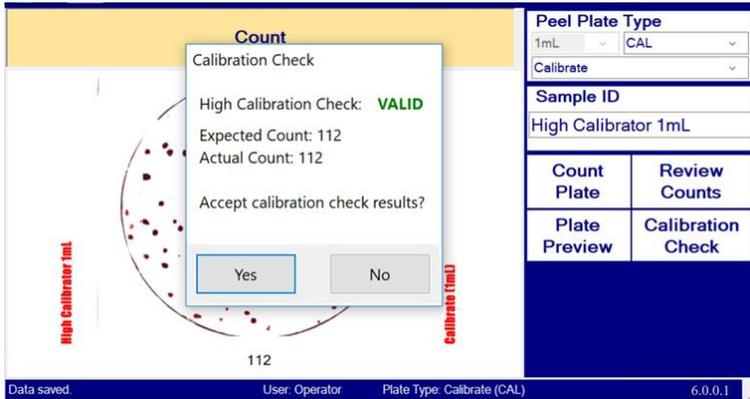

Figure 10
- An image of the High Calibrator plate and count appears, (Figure 10). If the count is within 5% of the count listed on the plate, the Colony Counter accepts the count as **VALID** and user is prompted to accept the count.